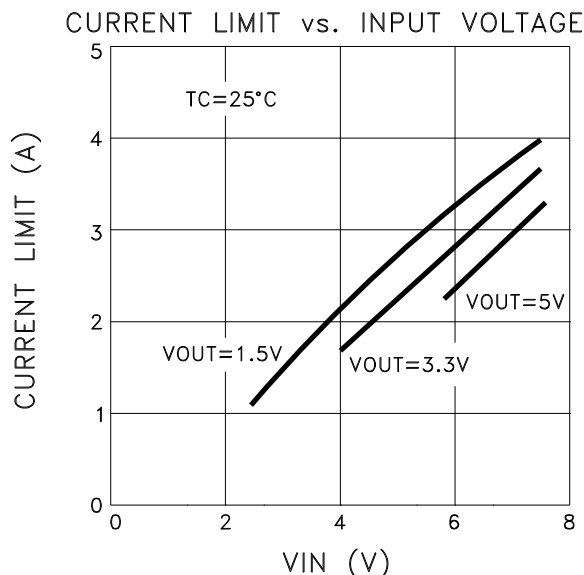

FIGURE 1
- ⑦ Output current limit is dependent upon the values of VIN and V_{OUT}. See Figure 1 and typical performance curves.
- ⑧ Minimum VIN at -55°C and I_{OUT} = 1.0A is 4.0V due to current limit circuitry.
- ⑨ Continuous operation at or above absolute maximum ratings may adversely effect the device performance and/or life cycle.
- ⑩ Pre and post irradiation limits, up to 300Krad TID, are identical unless otherwise specified.
- ⑪ Reference DSCC SMD 5962F09216 for electrical specification for devices purchased as such.
The MSK5800RH current limit function is directly affected by the input and output voltages. Figure 1 illustrates the relationship between VIN and ICL for three output voltages.